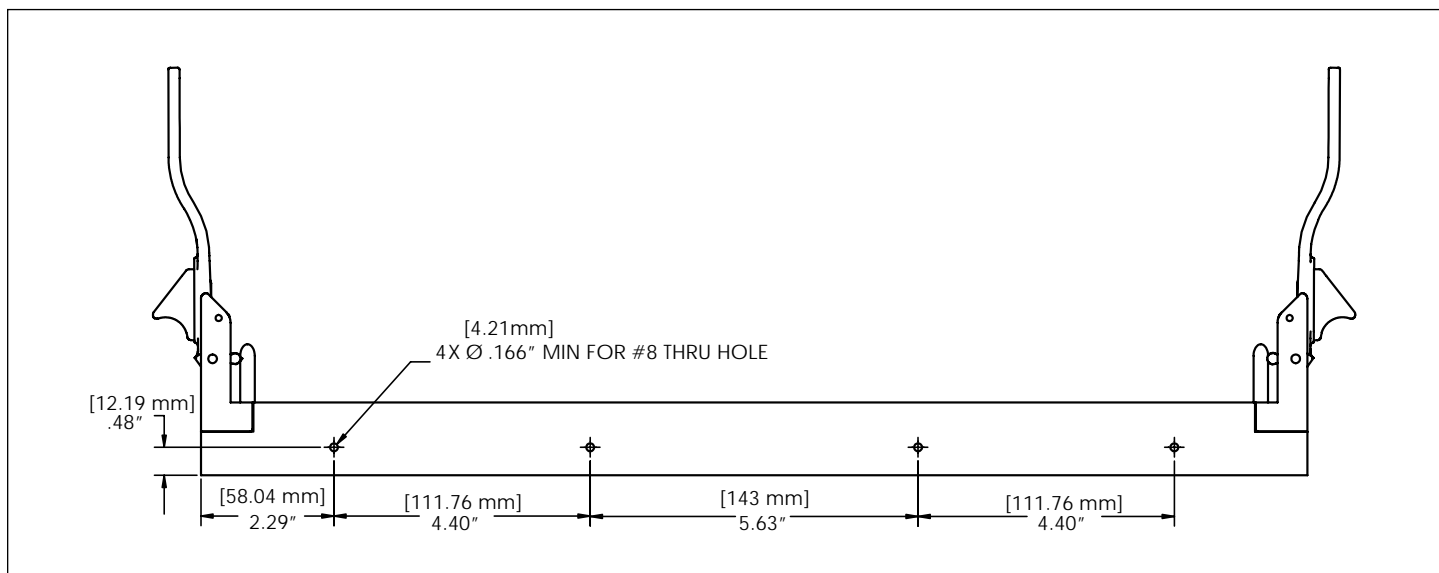

Figure 2-A. The receiver mount rear cover, Part # 310 113 431 attaches to the S6 Receiver to protect the wiring to the chassis.
1. Drill 4 thru holes for a #8 screw at the locations shown in **Figure 2-A**.